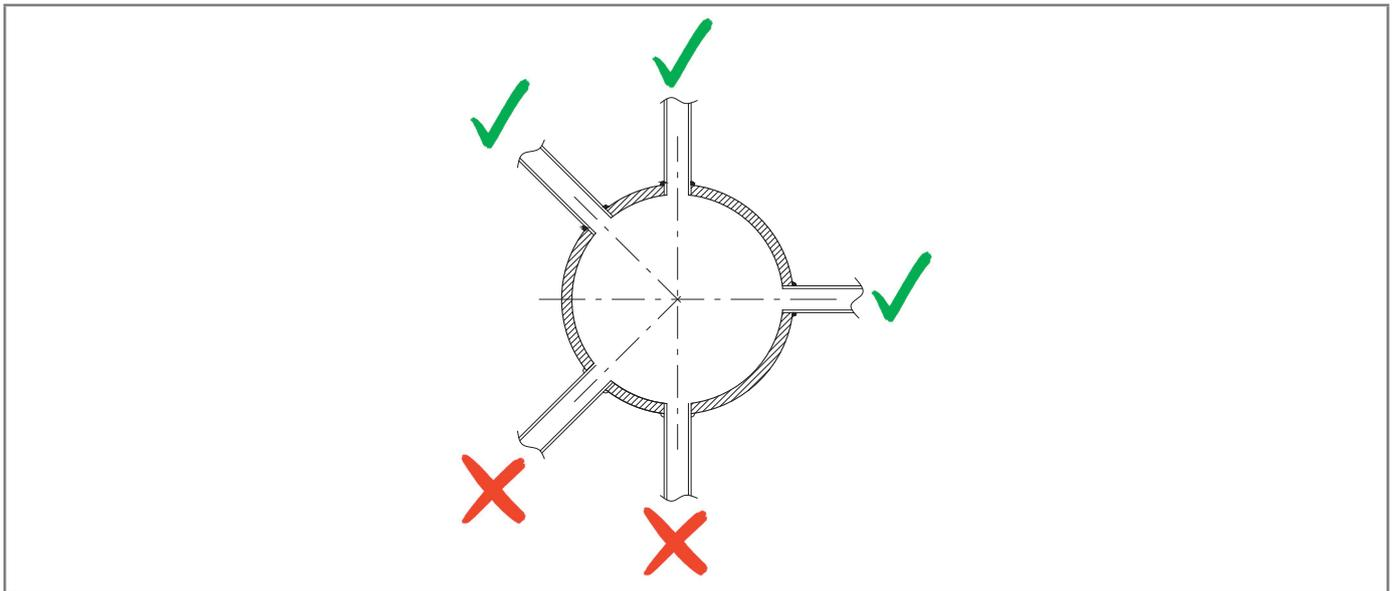

Fig. 6.13. Welded pipe connections
- the pipe connections are always welded on the upper part or at maximum 90 degrees on the axis of the pipe (refer to Fig. 6.13);